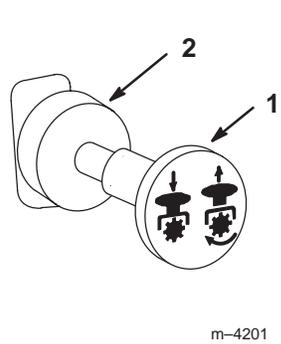

Figure 15
3. Move the PTO (power take off) switch to “OFF” (Fig. 15).